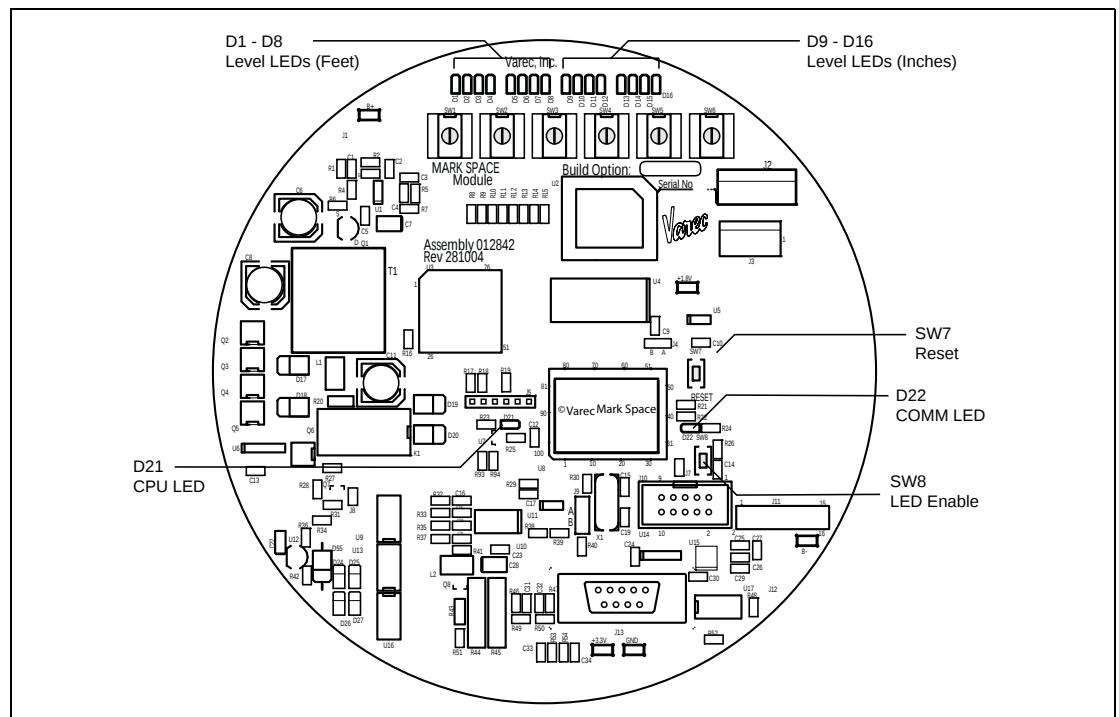

Figure 6-1: Mark/Space Communication Board Switches and LEDs
See Figure 6-1 for the location of the switches and LEDs on the 2900 FTT Mark/Space communications circuit board.
**Note** To activate the LEDs on the communications circuit board, press switch SW8, shown in Figure 6-1. The LEDs will be enabled for about three minutes.